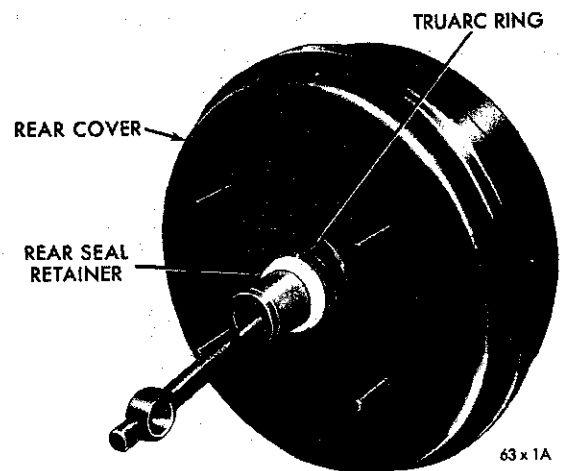
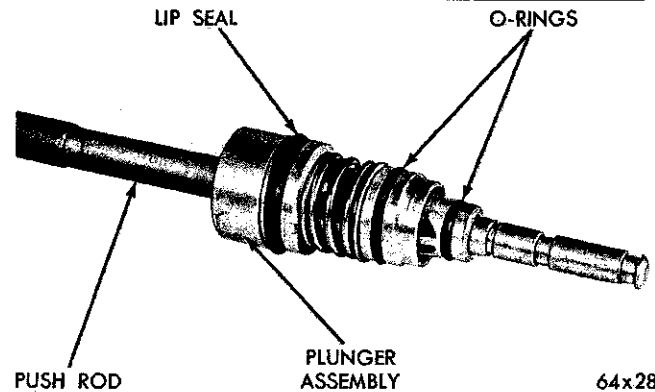

Fig. 27—Rear Seal Retainer
Fig. 34—Valve Plunger Assembly
(8) Using a plastic or rubber hammer tap the outside edge of the rear vacuum housing and separate the housings.
(9) Remove the large snap ring from the rear seal retainer (Fig. 27), and remove the diaphragm, valve housing assembly and rear seal from the rear housing.
(19) Remove the two “O” rings, seal and cushion ring from the valve plunger (Fig. 34).
(20) Remove the “O” ring from the outside diameter of the valve body.
(1) Install the “O” ring on the outside diameter of the valve body.
(2) Install the two “O” rings, and seal on the plunger assembly (Fig. 34).
(3) Install the cushion ring on the plunger assembly.
(4) Install the rear seal into the rear seal retainer with the lip of the seal toward the small end of the retainer.
(5) Install the “O” ring on the outside diameter of the rear seal retainer.
(6) Insert the rear seal retainer assembly into the hub of the rear cover.
(7) Holding the seal retainer in place invert the cover over a large socket to support the seal retainer in place.
(8) Apply downward pressure on the rear cover and install the retainer ring (Fig. 27).
(9) Install the plunger assembly into the valve body.
(10) Install the valve into the valve body with the rubber insert contacting the valve seat. Install the valve return spring over the valve.
(11) Install the load ring onto the plunger with the concave face out.